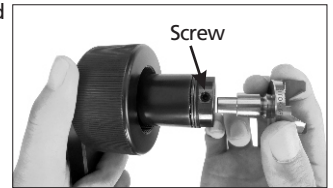

Fig.1-3
3. Loosen the set screw and remove the cutter head from the cutter support. (Fig.1-3)